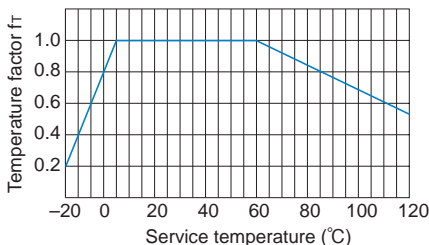

Fig.2 Temperature Factor
If the temperature of the change nut exceeds the normal temperature range, the seizure resistance of the nut and the strength of the material will decrease. Therefore, it is necessary to multiply the dynamic permissible torque (T) and the dynamic permissible thrust (F) by the corresponding temperature factor indicated in Fig.2.
- f_r : Temperature factor (see Fig.2)
- F : Dynamic permissible thrust (N)
- P_F : Axial load (N)